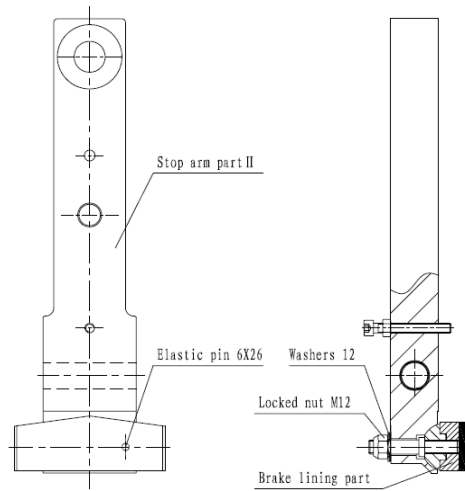

Figure 35 Emergency Brake Arm
1. Remove the Locked nut M12 from the Brake arm. See figure 35.